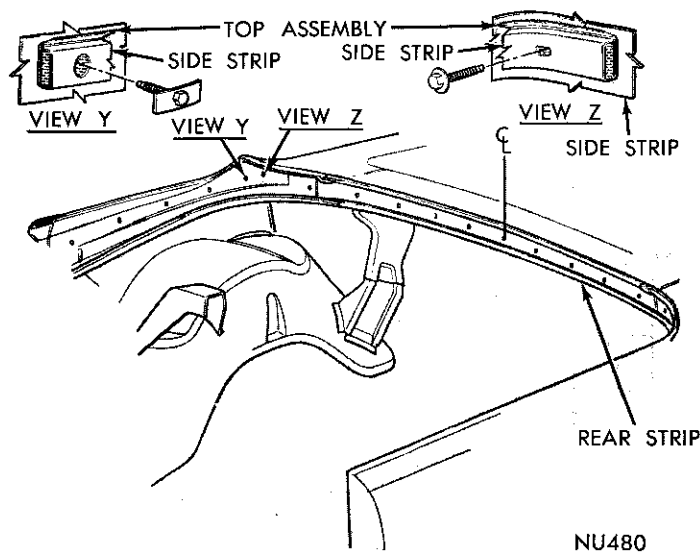
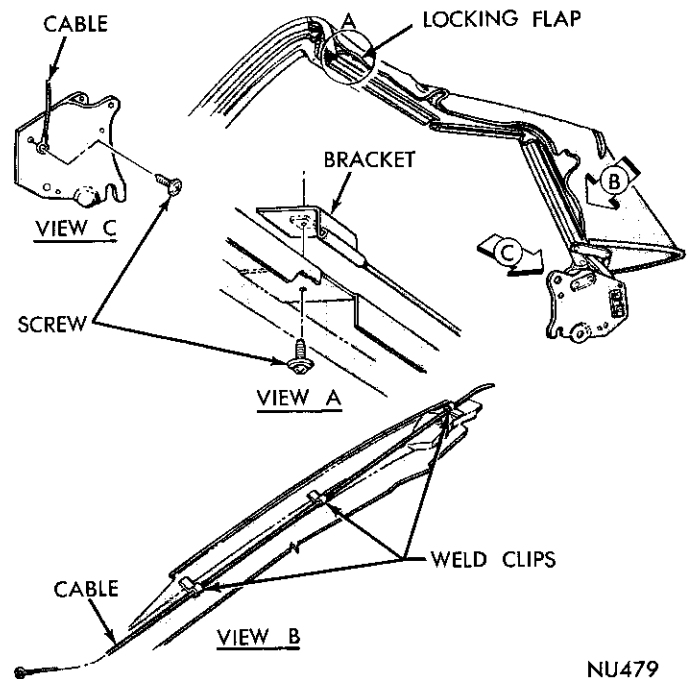

Fig. 7—Cover Locking Strips
Fig. 8—Cover Locking Flaps and Tension Cable
(4) Remove staples and tacks (one tack used on each side) at binding areas attaching cover to the rear bow.
(5) Remove the top boot.
(6) Prop the top off the windshield header and remove moulding from top header. The moulding attaching screws are located under the weatherstrip.
(7) Raise top to the 1/2 open position and remove rear roof rail weatherstrip. Mark location of retainer screws on roof rail to aid in reassembling, and remove retainer.
(8) Remove top and rear curtain material from roof rail.
(9) Raise top completely and remove trim in well area to permit removal of top material retainers at tacking strips (Fig. 7).
(10) Remove staples, drive nails and tacks attaching material to the header.
(11) Mark location of top material bead on ends of cover pads.
(12) Loosen vent wing seals at the corners.
(13) Remove front screws from front roof rail weatherstrip retainers and remove top material locking flaps (Fig. 8) from between retainer and roof rail.
(14) Remove tension cables and attaching bracket assembly (Fig. 8) at front roof rail and number 3 roof bow. If original cover is to be reinstalled tie a cord to one end of cables prior to removing. When cables are removed, the cord should be left in listing to aid in reinstalling cables.
(15) Remove cover from folding linkage.